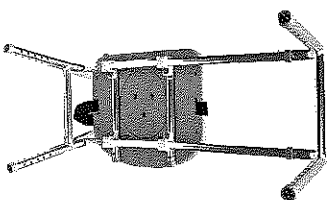

Figure 3
7. Take the other leg frame (Part B), and insert the sliding rails into it (*Figure 3*). Make sure the brass buttons snap firmly into place.